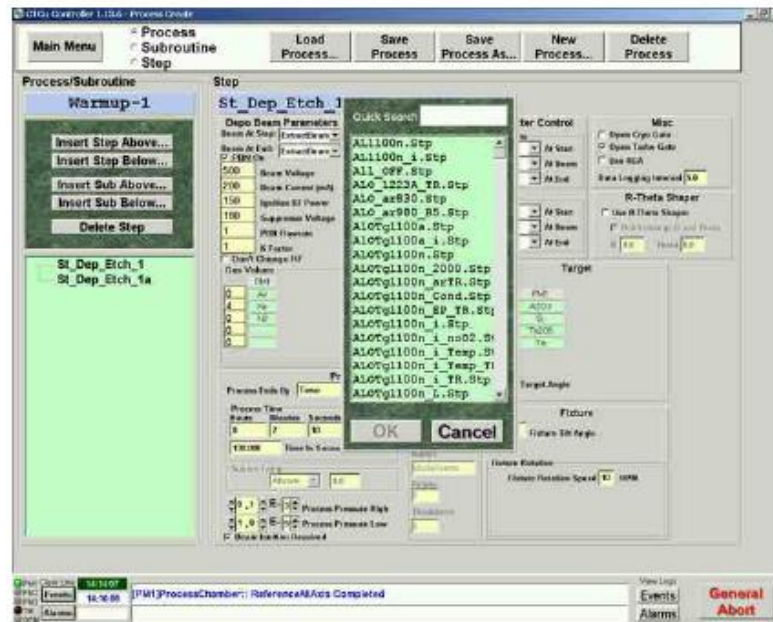

Figure 4-5. Adding Steps/Subroutines to the Process List
5. A screen appears (Figure 4-5) that lists all the previously created steps/subroutines to choose from.